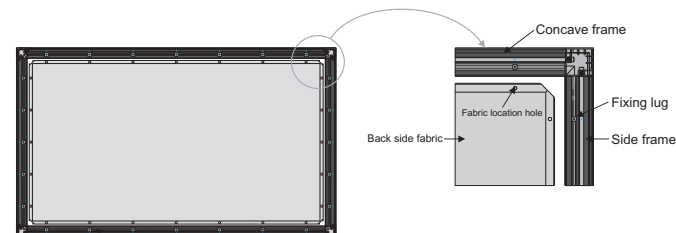

Figure 12
3. Align the fixing lugs as arrows indicate. ( Figure 12 )